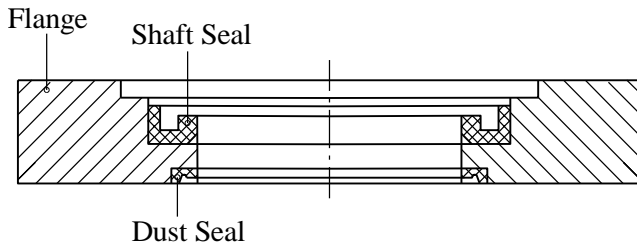

Fig.5
11. Remove with small screwdriver Dust seal and Shaft seal from flange (see Figure 5). Work from outer side for both seals.